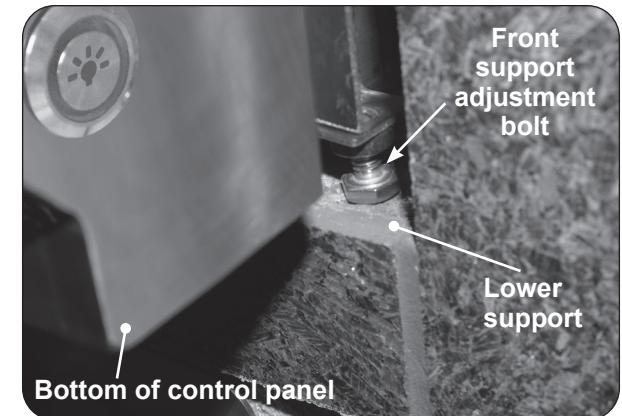

Fig. 29-3 Front support adjustment bolts
4. Rotate the front support adjustment bolts (up or down) until the griddle hanger rests flush on the countertop, AND, the adjustment bolts are touching the supporting structure found at the bottom of the cutout (lower support). Use a 7/16" open-end wrench as needed. See Fig. 29-3.